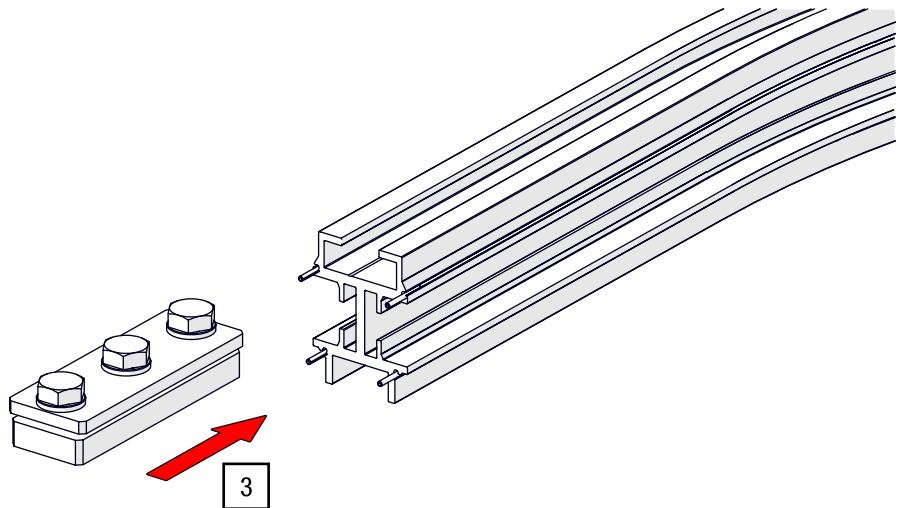

Fig. 45: Track splice – Insert into the track
3. Slide the pre-assembled track splice completely into the slot channel of a track section (see Fig. 45).